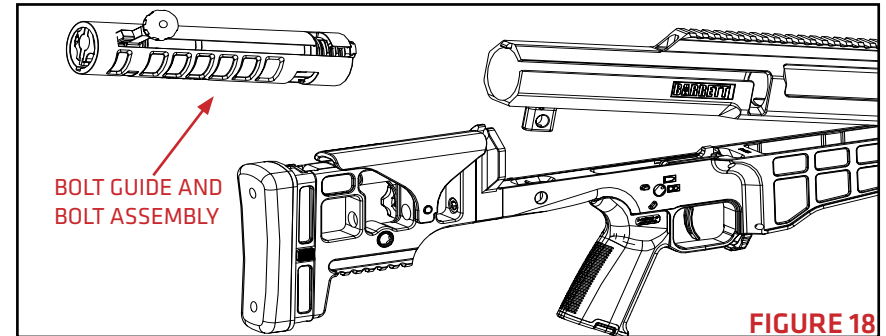

FIGURE 18
3. Pivot the upper receiver from the lower receiver (**FIGURE 18**). The takedown pin will not move unless the bolt handle is fully lifted.
4. Withdraw the bolt assembly and bolt guide from the rear of the upper receiver. Take note of the orientation of the bolt guide while removing. There is an arrow on the bolt guide noting the correct direction of installation (**FIGURE 18**).